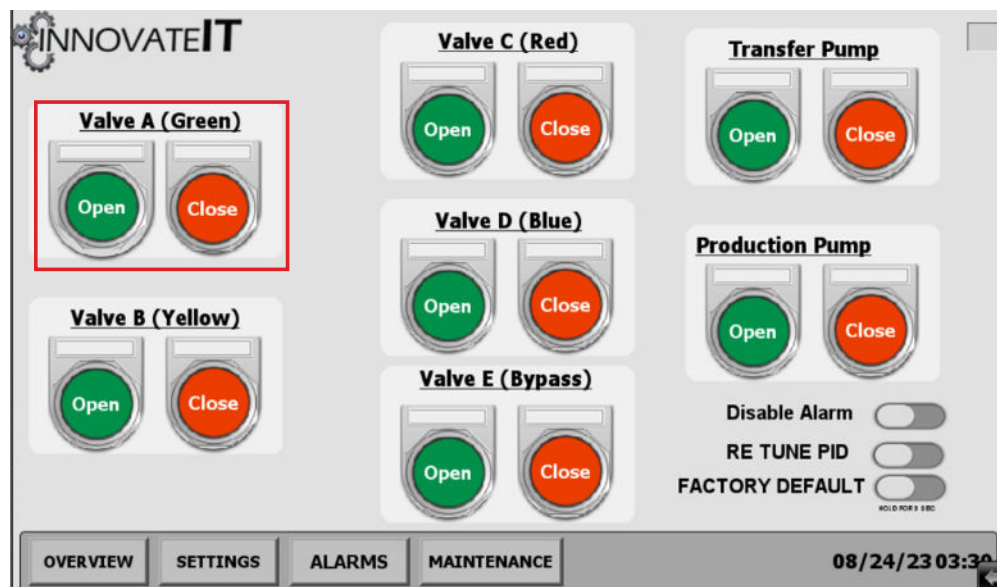

fig. 5 - 2 - Air Valve Testing Page
11. Loosen the Production Pump priming vent plug (fig. 5 - 3) with a 10mm wrench until there is constant stream flowing, then tighten the vent plug.